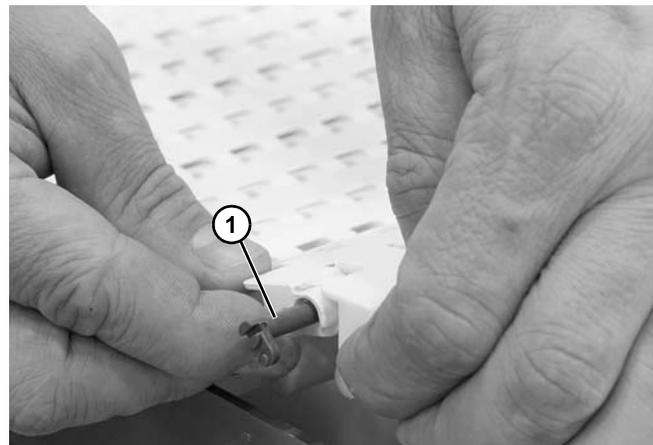

Figure 33
3. Remove the belt rod (Figure 33, item 1).